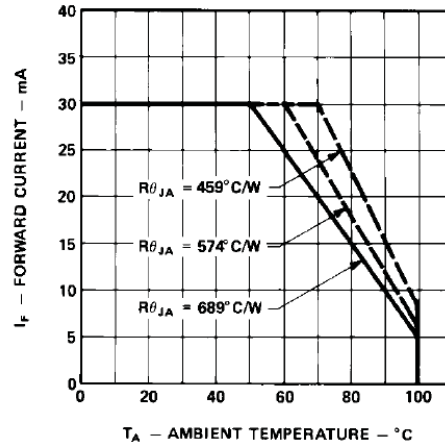

Figure 4. Maximum forward dc current vs. ambient temperature. Derating based on  $T_{J \text{ Max.}} = 110^\circ\text{C}$ .
2. Derate linearly as shown in Figure 4.